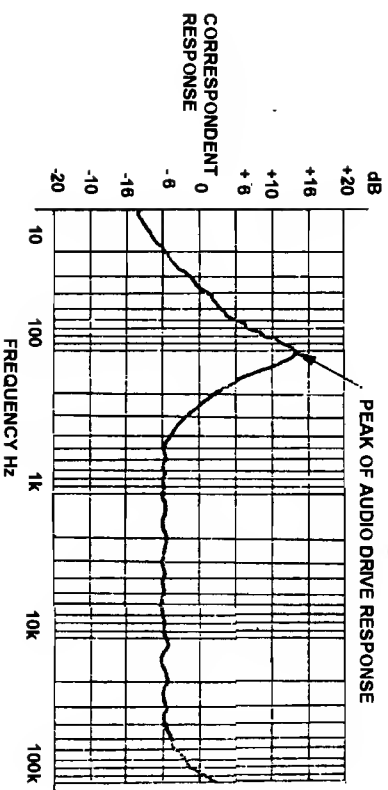

Figure 9
- For speaker testing, the peak voltage value occurs on the resonant frequency of the speaker as Figure 9 illustrated.